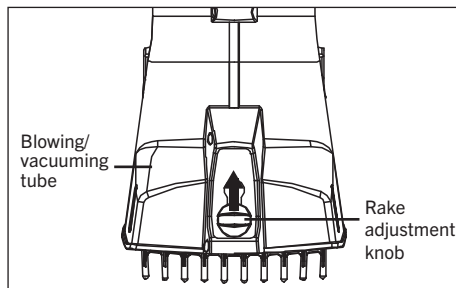

FIG. 11
3. To retract the rake, turn the rake adjustment knob to the horizontal position (Fig. 11). Pull the rake adjustment knob up until the rake is fully retracted back into the tube and then turn the rake adjustment knob to the vertical position to "lock".